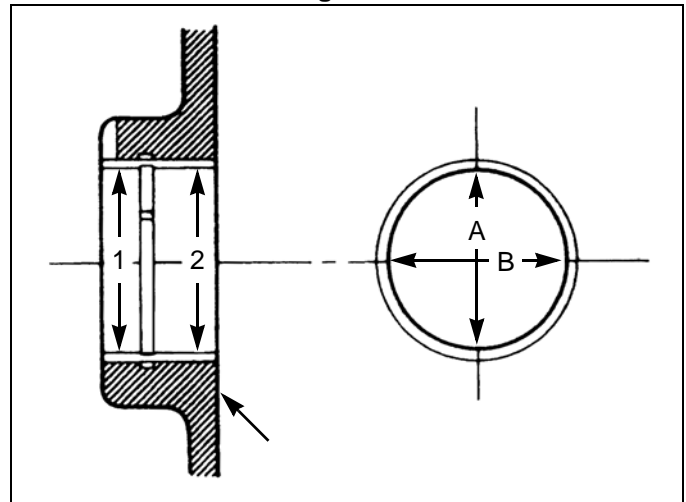

Fig. 3-27
1. Measure the dimensions in the A and B directions at positions 1 and 2 in Fig. 3-27 avoiding the oil hole in the bearing. Calculate the difference between that measurement and the maximum diameter of the crankshaft journal (oil clearance).